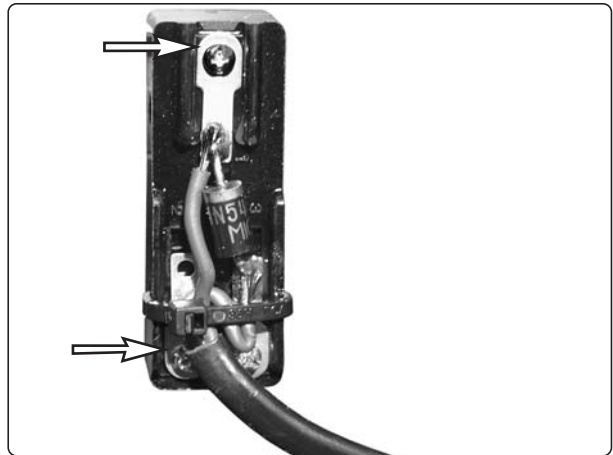

Fig. 59. The sensors cable connection.
- Loosen the cable connections, see Fig. 59. Check the placement of the cables for purposes of remounting later.